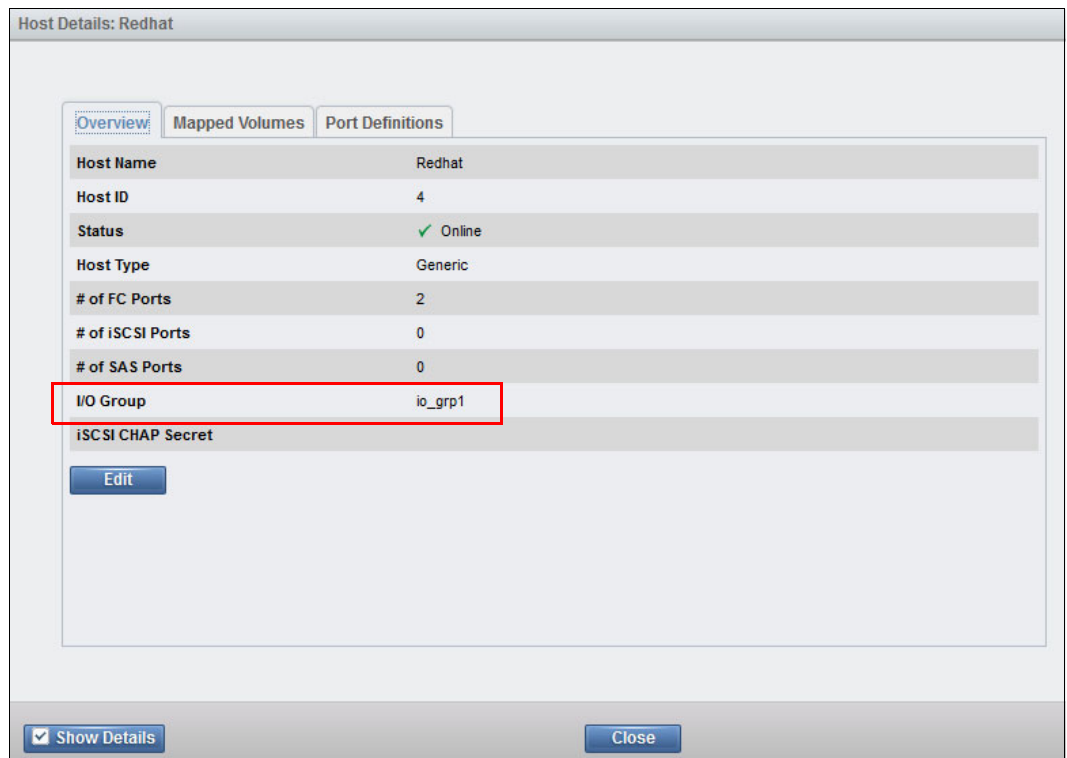

Figure 5-64 Show hosts properties with detailed view
1. From the Hosts menu, right-click a host (Figure 5-64) and click **Properties**. Then, click **Show Details**.